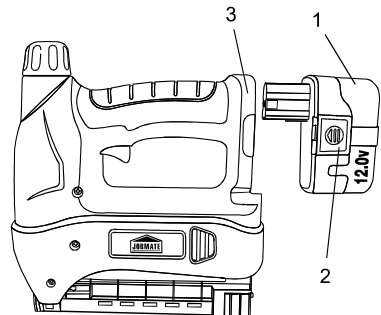

Fig. 2
1. Remove the discharged battery pack (1) from the tool by pressing the battery release buttons (2) on each side of the battery pack and pulling the battery pack out of the rear of the tool handle (3) (Fig. 2).